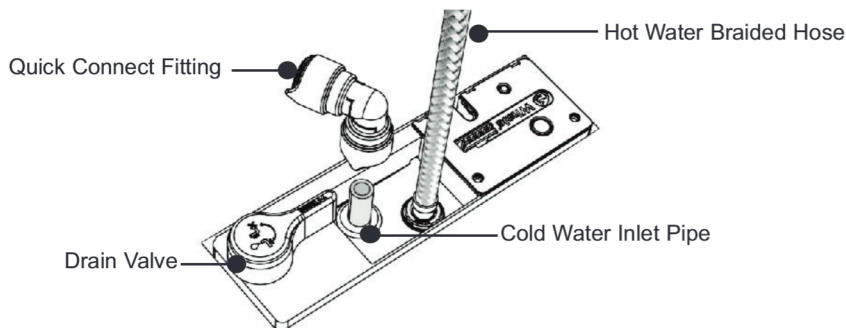

Fig. 32 Connect Hot Water Supply
Step 10 Connect Hot Water Supply (see Fig. 32)